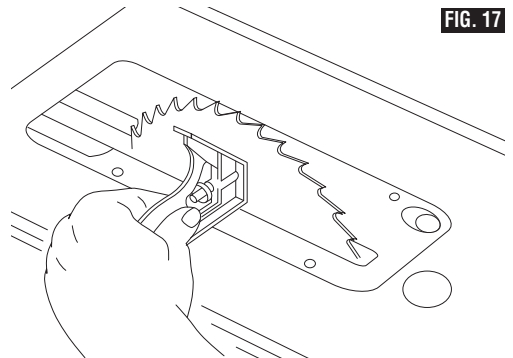

FIG. 17
3. Place a combination square on the table with one end of square against the blade as shown (Fig. 17), and check to see if the blade is 90 degrees to the table. If the blade is not 90 degrees to the table, loosen the blade tilt lock handle **1**, loosen 90 degree adjustment screw **4**, loosen 90 degree bevel stop cam **5** and push the elevation wheel until the blade is 90 degrees to the table.